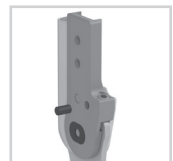

fig. 20
- 8 Drive the securing pin from the back into the bore (fig. 20).